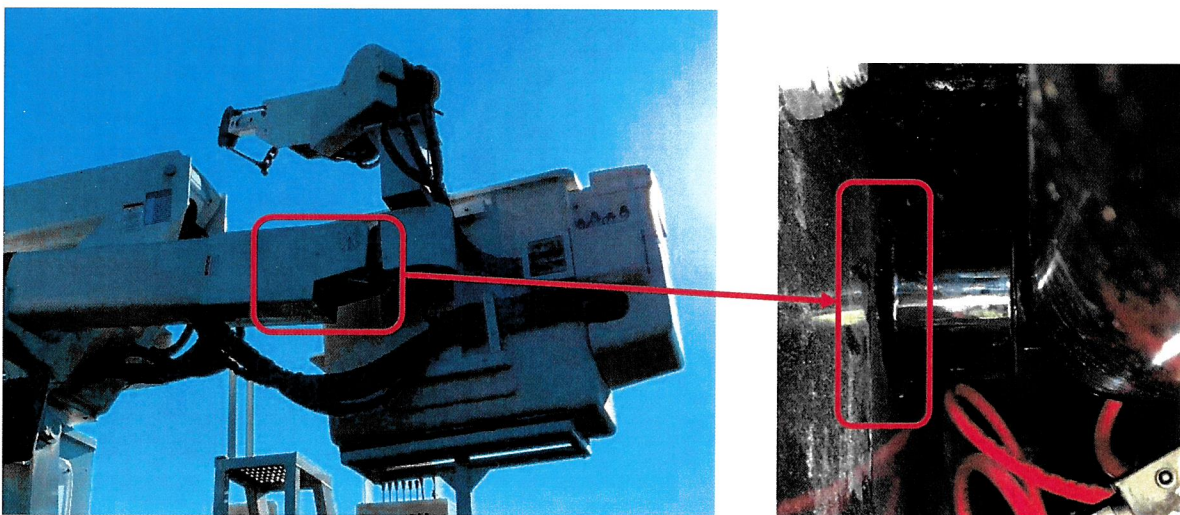

Figure 1. Welds to Inspect, Both Sides of Leveling Cylinder
2. Inspect for cracks of the boom tip leveling cylinder boss to boom welds, using Figure 1 as reference.